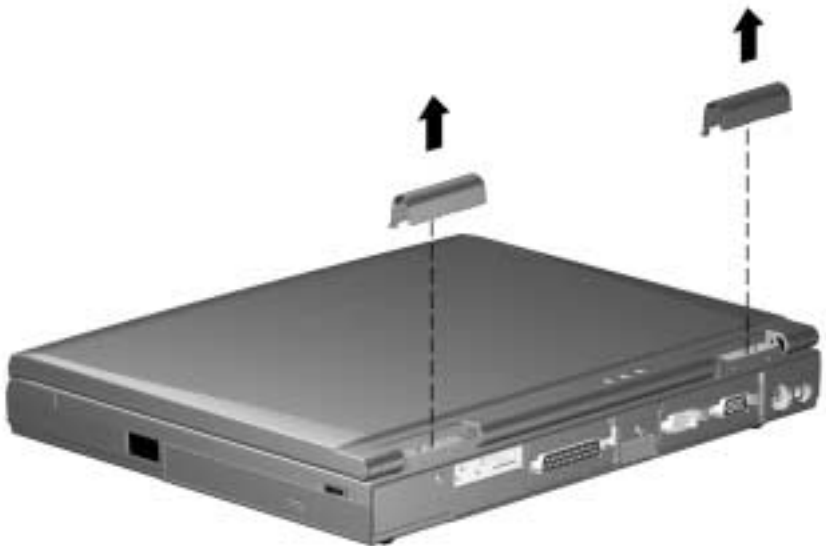

Figure 5-24. Removing the Hinge Covers
2. Use a flat blade screwdriver to gently pry up and remove the left and right hinge covers (Figure 5-24).